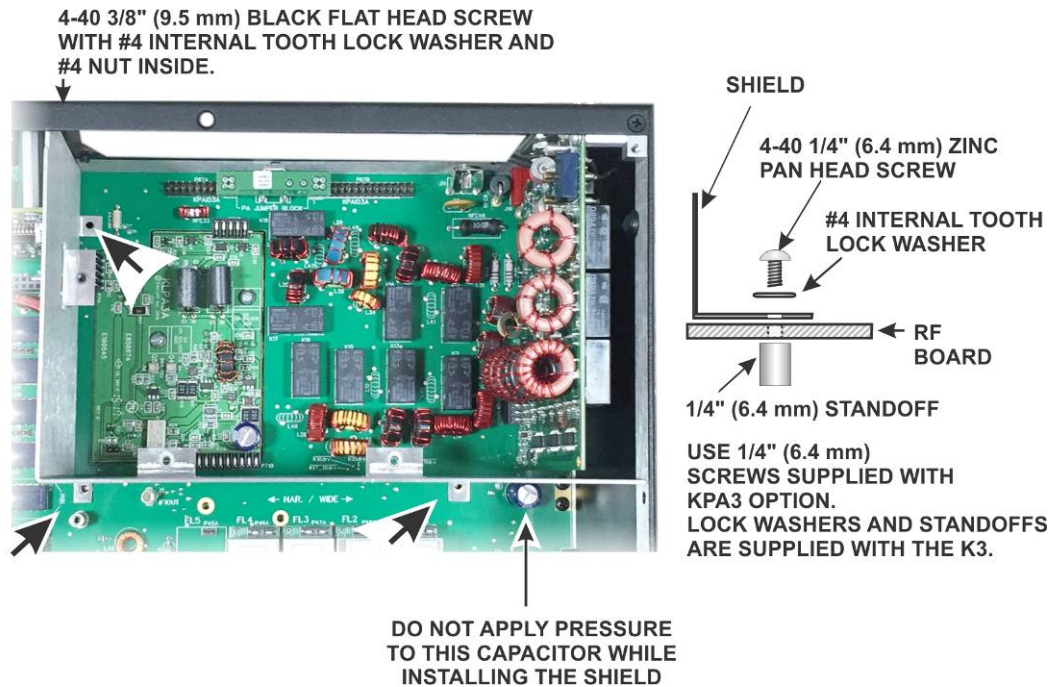

Figure 89. Attaching the KPA3A Shield.
□ Attach the shield to the RF board and to the rear panel as shown in Figure 89. The screws, washers and nut are in the KPA3A Option kit. The standoffs are part of the K3S kit hardware.